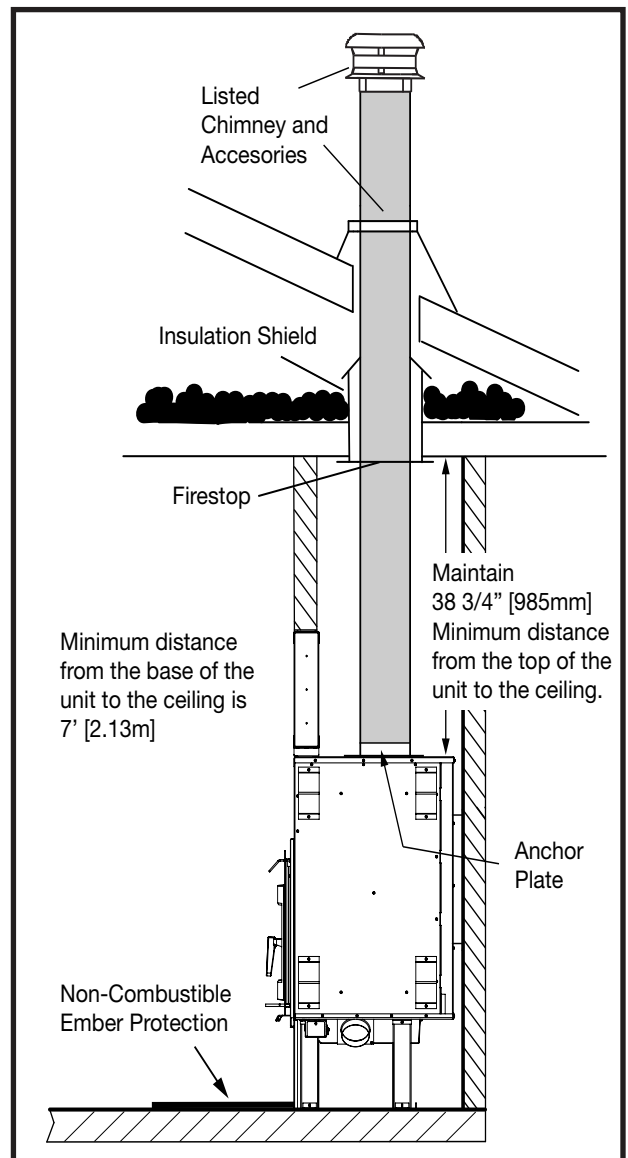

Figure 10: FP25 Basic installation.
2. Install the necessary chimney lengths to achieve the required offset. Lock the chimney lengths together according to the chimney manufacturer's instructions. If the offset length is made of two (2) chimney lengths or more, many chimney manufacturers may require that you use an offset or roof support halfway up the offset. If penetrating a wall, install a wall radiation shield supplied by the chimney manufacturer and install according to the manufacturer's instructions.
4. Use a plumb bob to line up the centre of the hole with the center of the flue collar on the fireplace. Cut a hole for the chimney in the ceiling/floor. Frame the hole as described in Figure 10 on page 19.